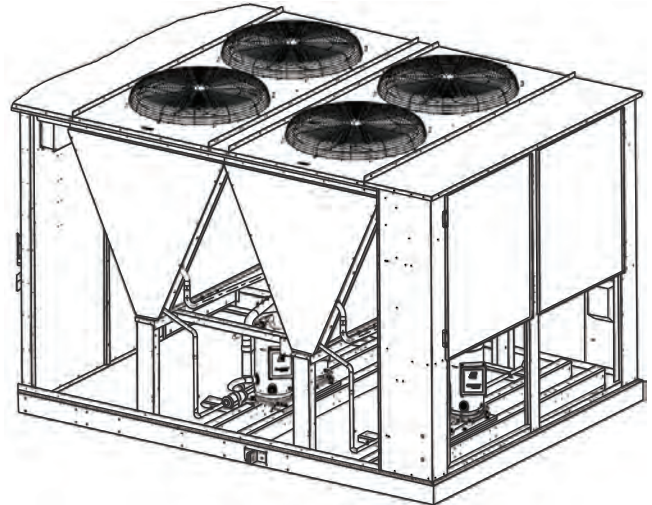

**Fig. 1 — 48P030,035 Compressor Access**
- b. Access compressor section through opening on end or side of unit. See Fig. 1.